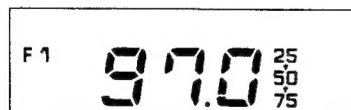

Fig. 11
Each time the \Rightarrow Tuning Button ⑪ is pressed, the frequency increases 25kHz. If you continue to press the button without releasing it, the frequency will continuously increase in 25kHz increments. (Fig. 11)
Each time the > Tuning Button ⑪ is pressed, the frequency increases 25kHz. If you continue to press the button without releasing it, the frequency will continuously increase in 25kHz increments. (Fig. 11)